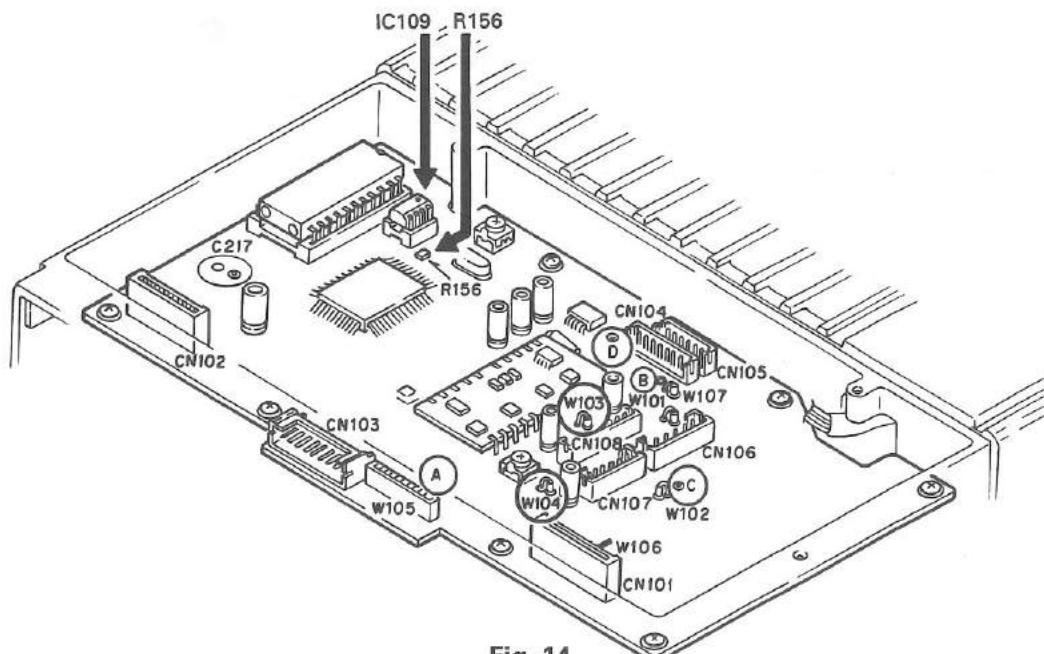

Fig. 14
2) Remove IC109 from the control unit (X57-5050 A/4) and install the KCH-5 EEPROM (X24C16PI) by soldering. (Fig. 14)
- 3) Remove R156 (R92-0670-05) of the control unit. (Fig. 14)
- 2) Remove IC109 (X24C04PI) of the control unit (X57-5050 A/4) from the socket, and install the KCH-5 (X24C16PI). (Fig. 14)